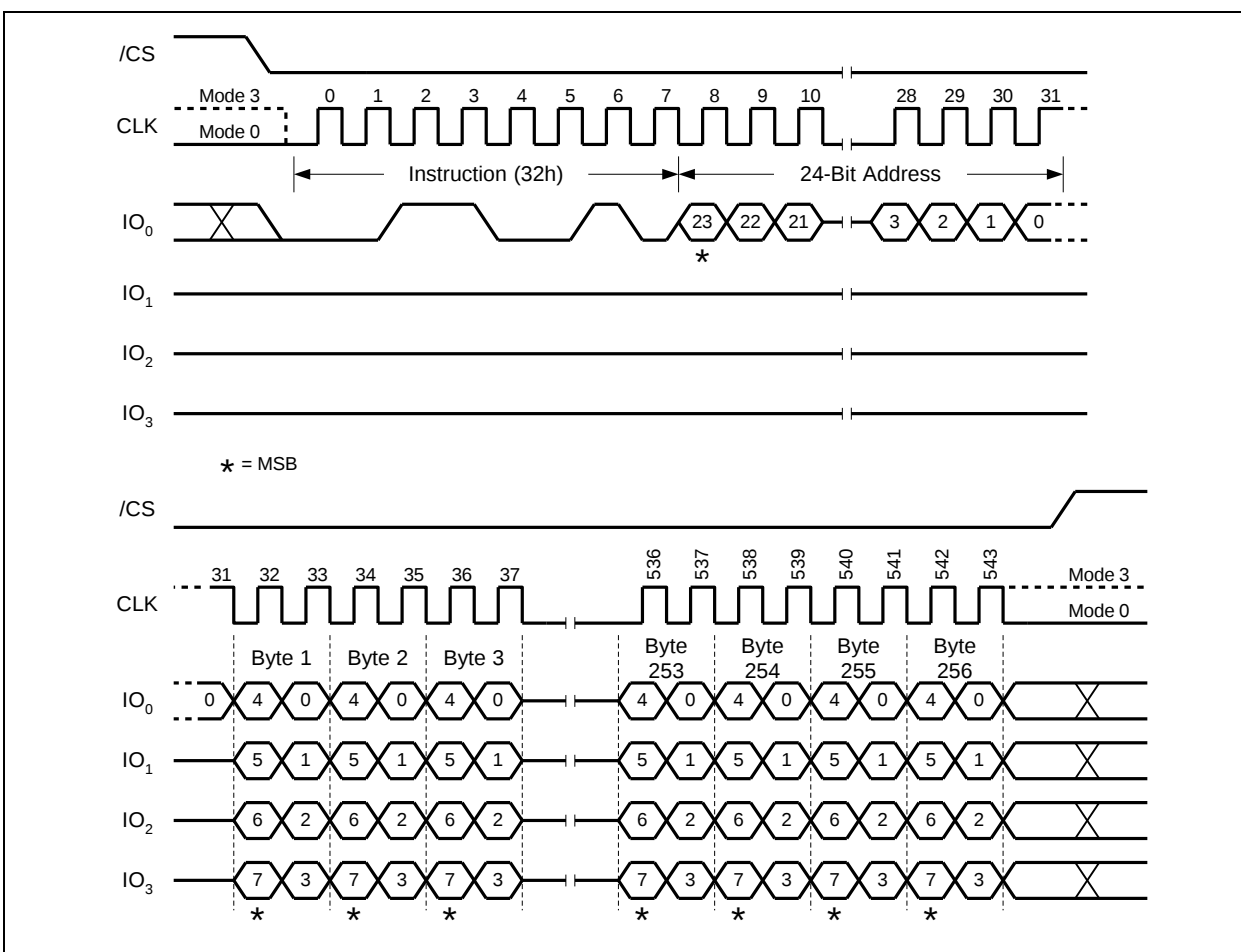

Figure 24. Quad Input Page Program Instruction (SPI Mode only)
To use Quad Page Program the Quad Enable (QE) bit in Status Register-2 must be set to 1. A Write Enable instruction must be executed before the device will accept the Quad Page Program instruction (Status Register-1, WEL=1). The instruction is initiated by driving the /CS pin low then shifting the instruction code "32h" followed by a 24-bit address (A23-A0) and at least one data byte, into the IO pins. The /CS pin must be held low for the entire length of the instruction while data is being sent to the device. All other functions of Quad Page Program are identical to standard Page Program. The Quad Page Program instruction sequence is shown in Figure 24.